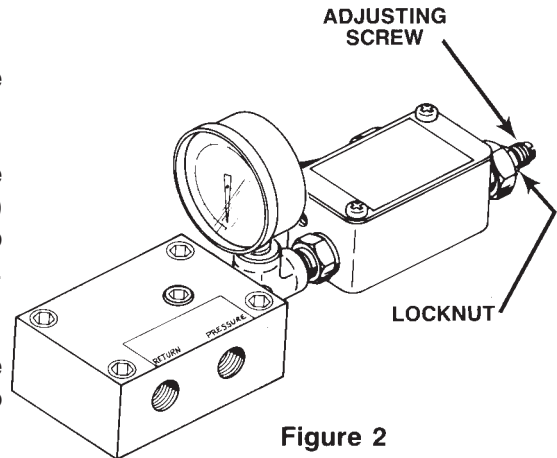

Figure 2
2. Loosen the Locknut on the pressure switch. Slowly turn the pressure switch adjusting screw in a counterclockwise (CCW) direction, decreasing the pressure switch setting until the pump motor shuts off. Tighten the locknut to lock the adjusting screw. See Figure 2.